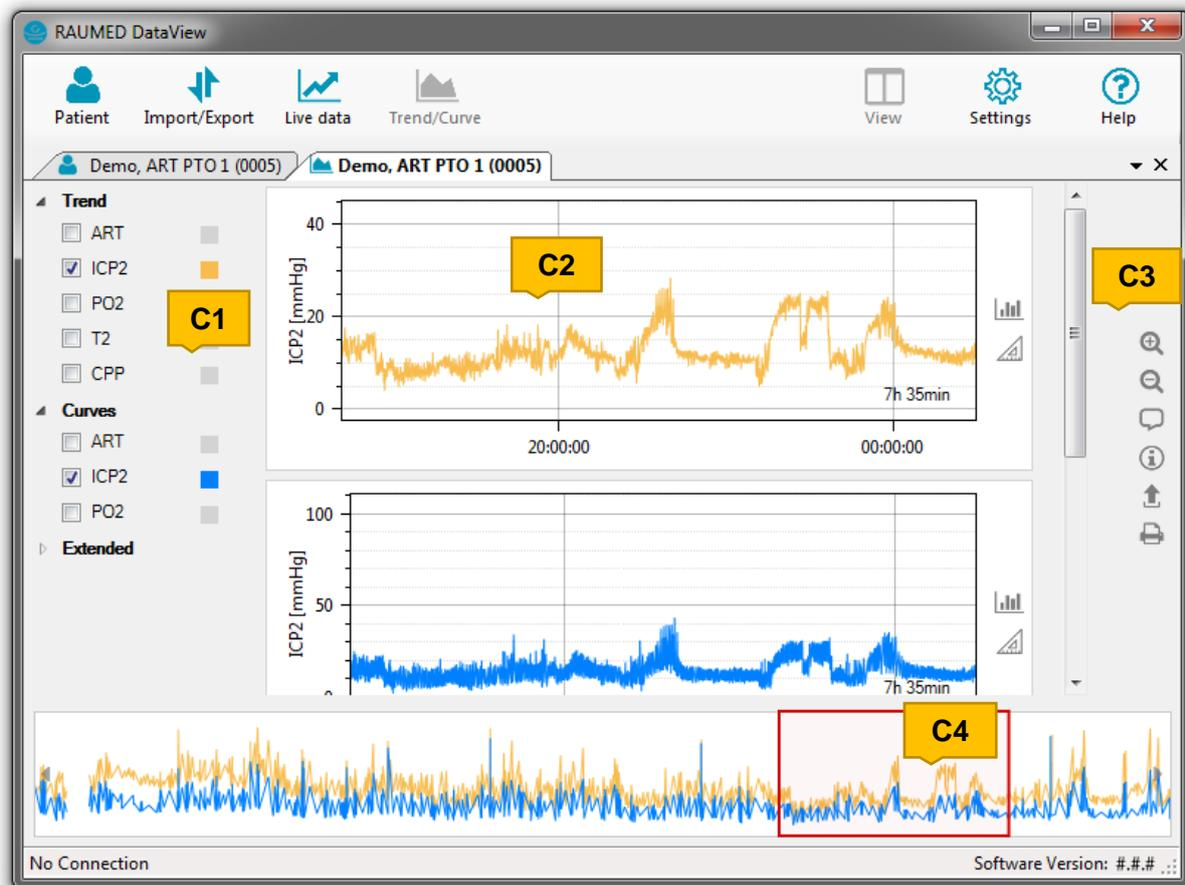

Figure 11 Curve and trend data
- c) Via the action menu  of a plot (see Figure 11, **(C3)**)
Curve and trend data are displayed together in the plot view (see Figure 11).
The timeline is used for rapid chronological navigation in diagram data. In this view, all active diagrams are displayed one above the other. The area framed in red always indicates the area which is displayed in the actual diagram display (see Figure 11, **(C2)**).
If a mouse wheel is not available, the zoom level of the timeline can be adjusted using the  and  (see Figure 11) action buttons additionally.